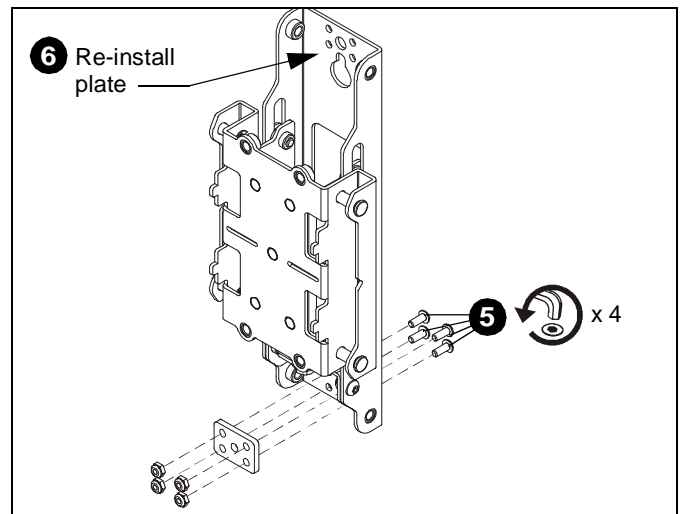

Figure 4
5. Remove four button head screws and nuts, and one small metal plate from lower side within wall upright. (See Figure 4)
6. Reinstall metal plate at top of wall upright using same hardware removed in Step 5. (See Figure 4)